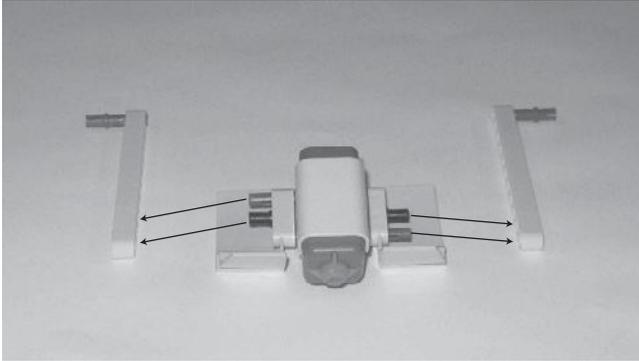

Figure 11.12
Step 2: Connect the support beams to the touch sensor assembly, as shown in Figure 11.12.